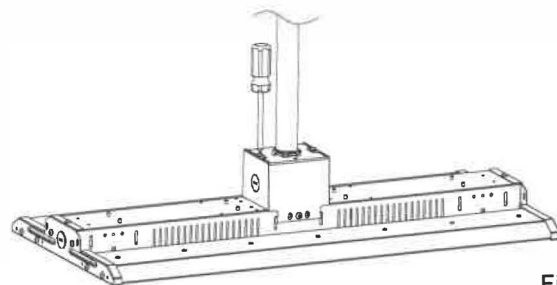

Figure4
4. Secure and tighten side brackets with screw driver. (Figure 4).